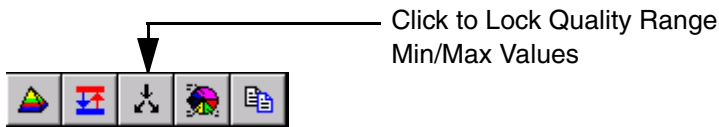

Figure 74. Locking/Unlocking Quality Range Min/Max Values
3. Click the lock button on the legend tool bar, Figure 74. This locks your adjustments; otherwise, the Profile Historian software will automatically adjust all bounds back to their default settings to fit the applied data.